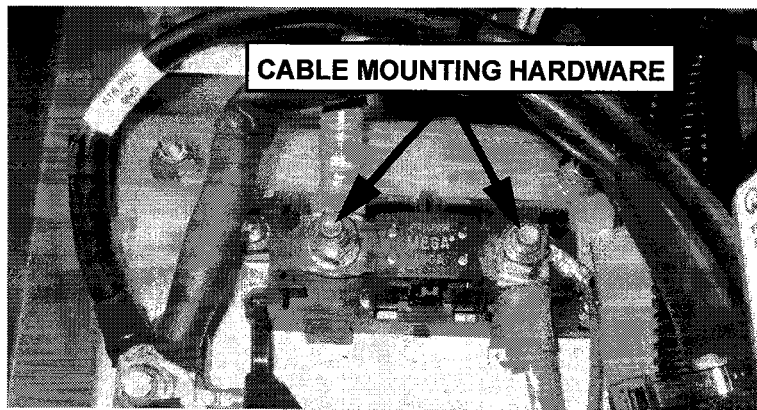

Figure 1-6 Cable Mounting Hardware
6. Secure cable mounting hardware. Torque to 125 in-lbs. See **Figure 1-6**